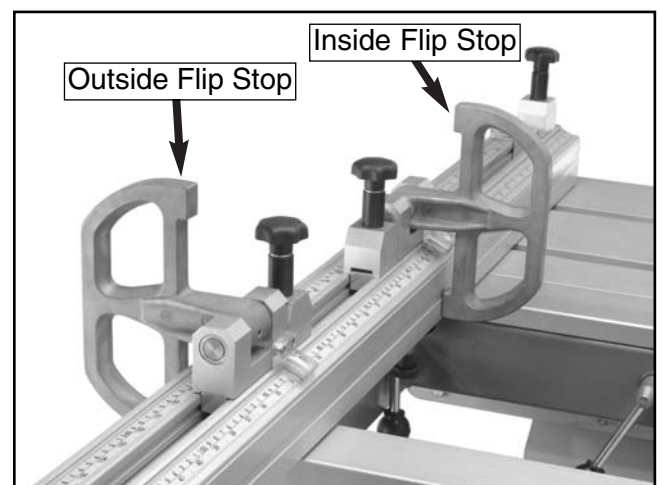

Figure 50. Correct order of flip stop unit placement.
10. Install the flip stop units in the crosscut fence by unlocking the extension piece and aligning the clamp bar on the bottom of the flip stop unit to slide it into the fence. The correct order of placement for the flip stop units is shown in **Figure 50**.